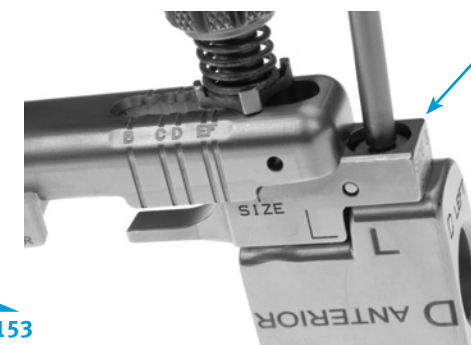

Fig. 153
- Secure the appropriate size Trepine Guide Bushing, corresponding to the size femoral component implanted in the patient, to the Condylar Trepine Guide by tightening the recessed hex screw with the 3.5mm Hex Head Screwdriver (Fig. 153).